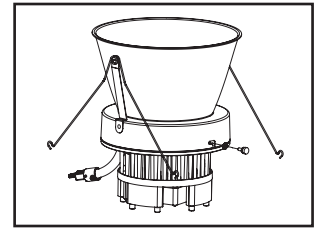

Figure 33.
- Using provided thumb screws, securely attach lower trim to LED Engine (Figure 33.).